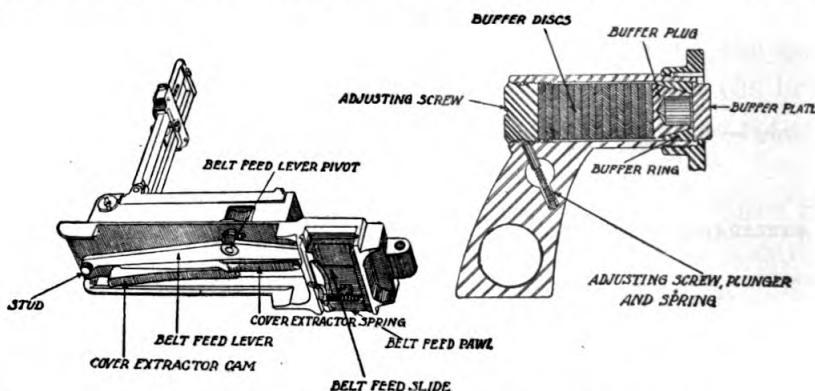

FIGURE 127.—Cover and shock-absorbing groups.
**139. Detailed disassembly of cover (fig. 127).—***a.* Turn the belt feed lever pivot spring outward and remove the belt feed lever pivot.